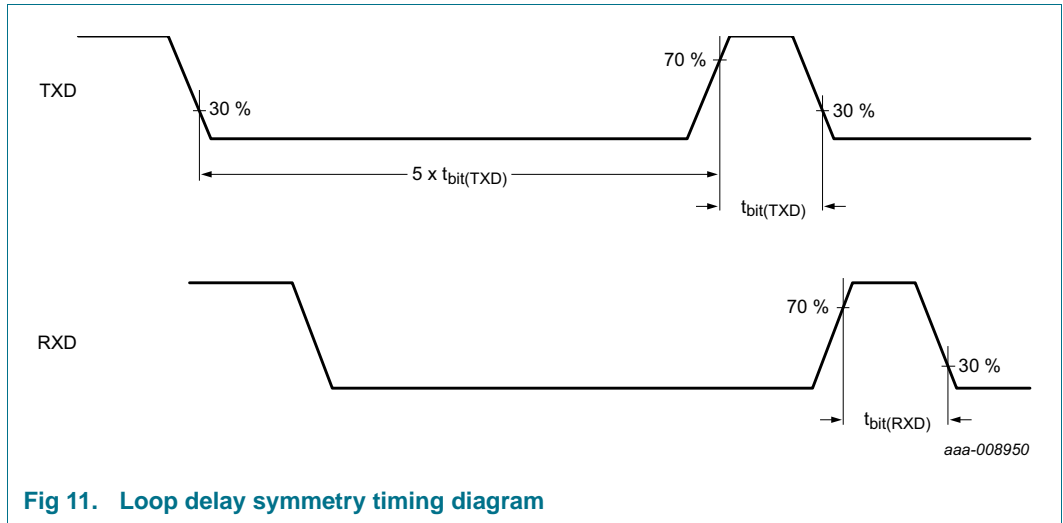

Fig 11. Loop delay symmetry timing diagram
- [2] See Figure 11.
| Modifications: | <ul style="list-style-type: none"> • Section 1: text revised (2nd paragraph added) • Section 2.1: feature added (loop delay symmetry) • Table 2: table note amended • Section 6.1.1.4: last paragraph added • Section 6.1.1.6: text revised (3rd paragraph) • Section 6.1.1.7: text revised (4th paragraph) • Table 3: row CAN revised • Section 6.2.2: text revised • Section 6.3.1: text revised • Section 6.3.2: text revised • Section 6.7: text and state diagram revised • Table 14: description for bits CMC revised • Table 15: description for bit CTS revised • Section 6.10.3: note added at beginning of section • Section 6.15.1: text revised (4rd last paragraph); last paragraph added • Table 47: symbols and parameters revised for pins V1 and VEXT; parameters $t_{to(SPI)}$ and $t_{bit(RXD)}$ added; additional measurement for parameter $t_{d(TXD-RXD)}$; parameter $t_{fltr(rst)}$ renamed to $t_{w(rst)}$ and value changed; parameter values changed: t_{wake} for pin WAKE • Figure 11: added • Section 11.2: added • Section 12.1: text updated | | | |